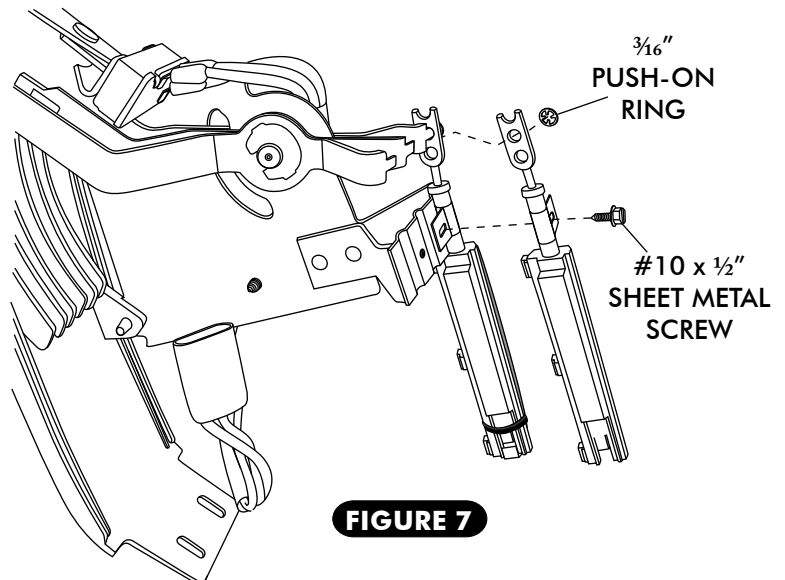

FIGURE 7
- INSTALL CABLE CONVERTER ASM ON THE COLD/ HOT LEVER. SEE FIGURE 7 BELOW.
- INSTALL CABLE CONVERTER LEVER PUSH ROD ONTO OEM CABLE MOUNTING STUD ON LEVER. SEE FIGURE 7 BELOW.
- SECURE THE CABLE CONVERTER ASM TO THE CONTROL PANEL USING #10 x 1/2" SHEET METAL SCREW IN THE OEM CABLE CLAMP MOUNTING LOCATION, SEE FIGURE 7 BELOW.
- SINCE THE CABLE CONVERTER ASSEMBLY CAN SLIDE BACK AND FORTH IN CLAMP BEFORE SCREW IS TIGHTENED, POSITION CABLE CONVERTER ASSEMBLY SUCH THAT THE FLAT PART OF THE ROD IS AS CLOSE TO FLUSH AS POSSIBLE WITH THE END OF HOUSING AT THE LEVER'S INNER MOST POSITION. SEE FIGURE 7.
- SECURE CABLE CONVERTER LEVER PUSH ROD ONTO OEM CABLE MOUNTING STUD USING 3/16" PUSH-ON RING AS SHOWN IN FIGURE 7 BELOW.